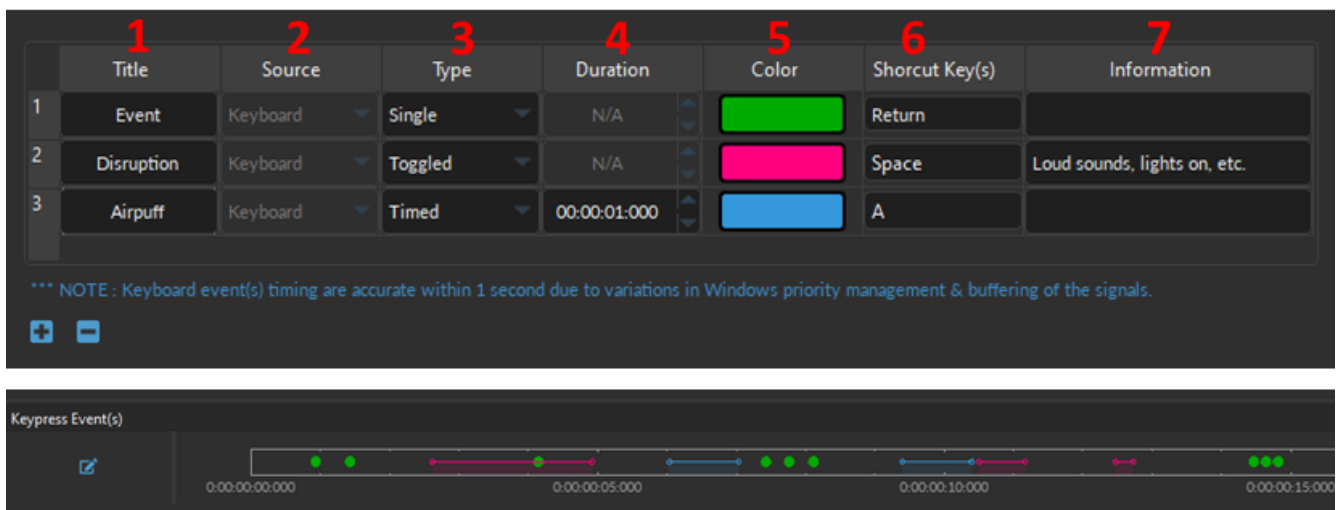

Figure 9.31: Channel(s) configuration window, Keypress Event(s)
The following are the configurable parameters of a **Keypress Event**, per Fig. 9.31:
1. The **Title** (Fig. 9.31, 1) allows you to give a name for the Keypress event.
2. The **Source** (Fig. 9.31, 2) is by default *Keyboard*.
3. Three **Types** of Keypress Event(s) (Fig. 9.31, 3) can be specified with the drop-down list:
4. The **Duration** (Fig. 9.31, 4) is only used for the **Timed** Keypress type to specify the predetermined amount of time a Keypress Event will span. The duration is set in hh:mm:ss:zzz.
5. Select the **Color** (Fig. 9.31, 5) field to open the **Select Color** window. Basic colors are provided, in addition to custom colors can be created and stored.
6. The **Shortcut Key(s)** (Fig. 9.31, 6) can be any keyboard key, including space bar, enter, backspace, any letters, number and special characters (*, !, ? etc.). To specify the key, click inside the *Shortcut Key(s)* cell, then press the keyboard key of choice. If a key was properly set, it will appear in the *Shortcut Key(s)* cell (as in Fig. 9.31, column 6).
7. The **Information** column (Fig. 9.31, 7) provides space to make notes or write a short description of the Keypress Event.